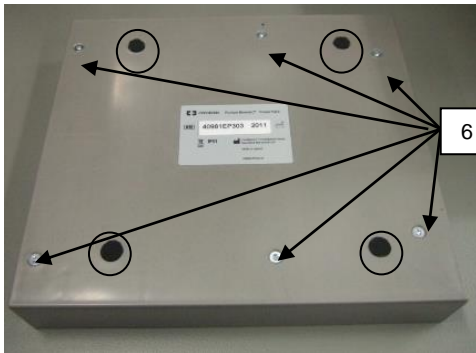

Fig 5
- Check for correct application of 4 adhesive feet fitted to cover, as per fig 5.
- Check to ensure all 6 screws are present to secure cover and housing as per fig 5.